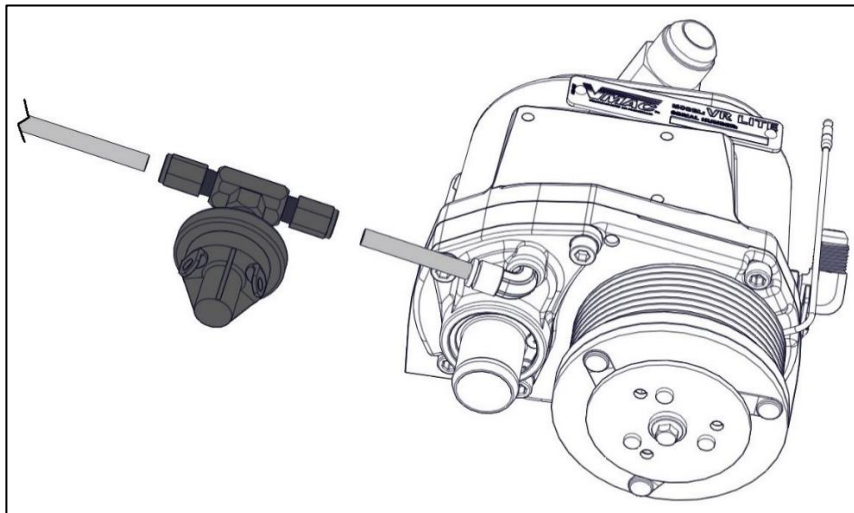

Figure 3 – Install the pressure switch
- Install the PTFE tubes into the pressure switch (Figure 3).